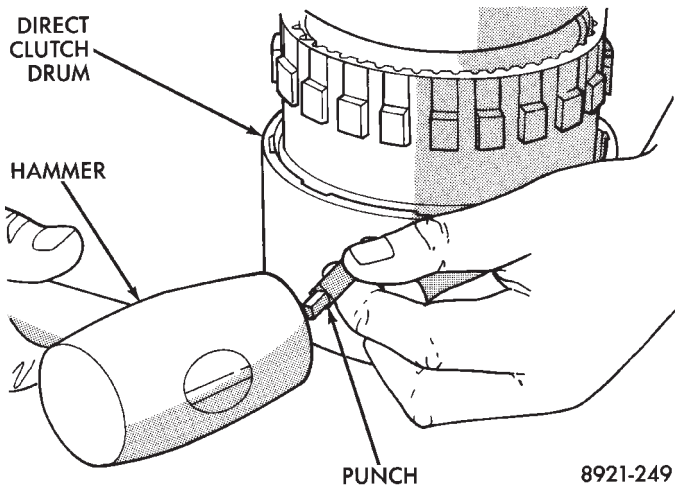

Fig. 29 Marking Direct Clutch Drum And Annulus Gear For Assembly Alignment
(20) Mark position of annulus gear and direct clutch drum for assembly alignment reference (Fig. 29). Use small center punch or scriber to make alignment marks.